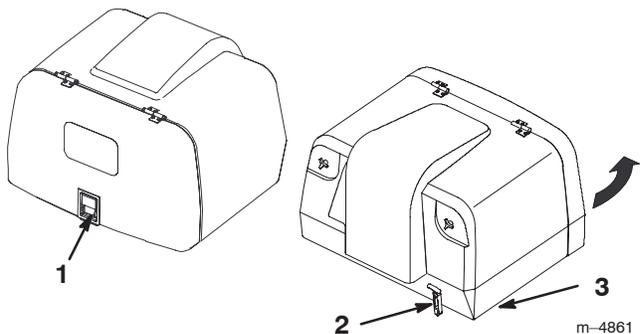

Figure 20
3. Unhook the rear door latch and then the front latch on hopper (Fig. 20).
4. Lift up on the hopper in the lower front and dump the clippings (Fig. 20).
5. Lower the hopper. Firmly secure the hopper door so it latches and secure the front hopper latch (Fig. 20).